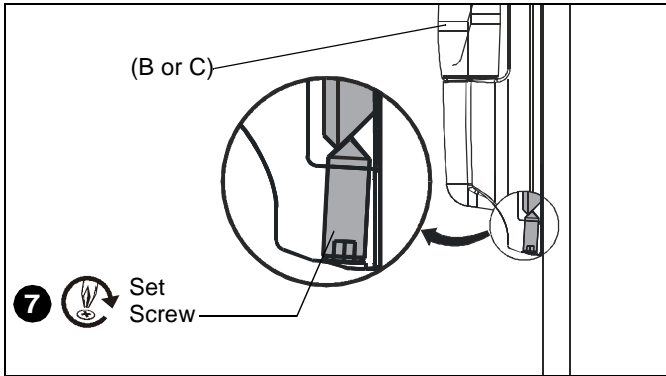

Figure 37
- Use 5/32" hex driver (AA) to tighten set screw in bottom of wall mount. (See Figure 37)